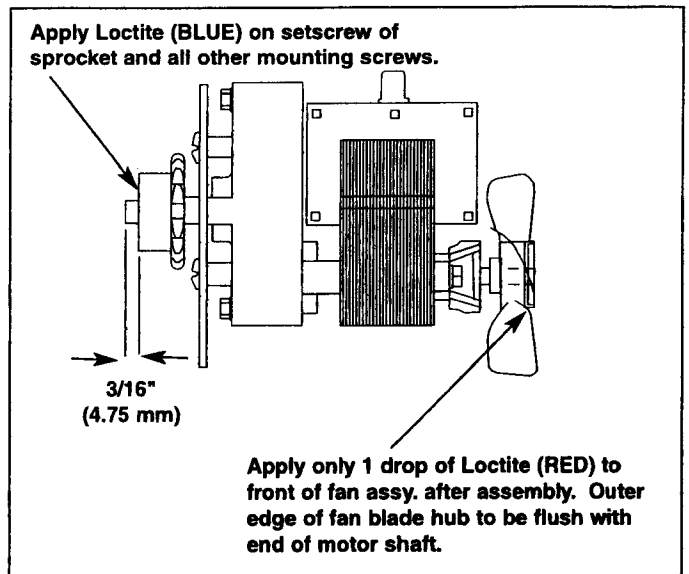

Figure 2. Conveyor Motor Sprocket and Fan Assembly Instructions
5. Attach the motor sprocket to the gear reducer as shown in Figure 2.
- NOTE: Be sure sprocket setscrew is positioned on the flat of the gear reducer shaft. Maintain the 3/16" dimension as shown in Figure 2. Apply Loctite (Blue) to threads of setscrew and tighten securely.*